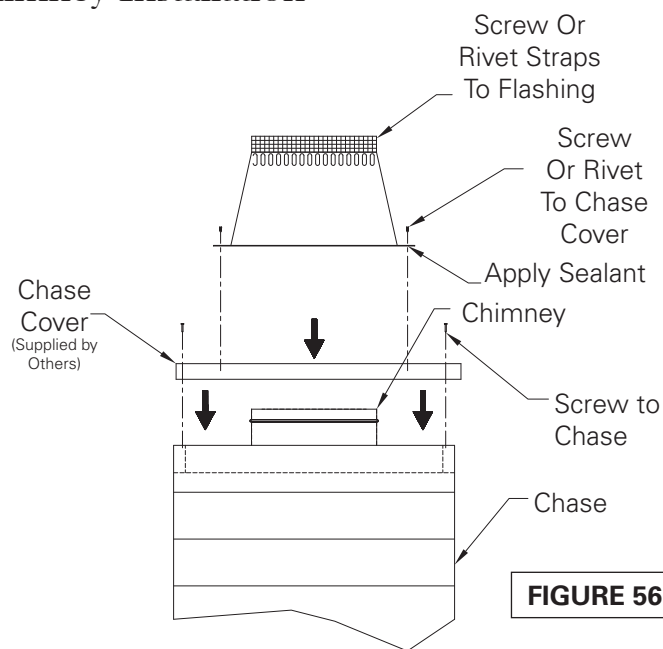

FIGURE 56
Attach the elbow to the chimney pipe, support or other part. Using the offset chart, add chimney sections between elbows. **A Support Band or plumbers strap is required for every 4 foot interval between elbows to support the load. (Figure 56)** Attach the upper elbow to bring the chimney back to vertical. See **TABLE 2** and **(Figure 55)** for offset combinations. 2 offsets (4 elbows) maximum.
Attach the elbow to the chimney pipe, support or other part. Using the offset chart, add chimney sections between elbows. A Support Band or plumbers strap is required for every 4 foot interval between elbows to support the load. **(Figure 55)** Attach the upper elbow to bring the chimney back to vertical. See **TABLE 2** and **(Figure 56)** for offset combinations. 2 offsets (4 elbows) maximum.
8. For chase enclosures, install the chase top cover (supplied by others) to the chase enclosure. Cut a hole in the chase top cover the same diameter as the base of the cone on the flashing. Attach the Flashing to the top of the chase cover, sealing with a non-hardening waterproof sealant. Secure in place with screws or rivets. **(Figure 56)**